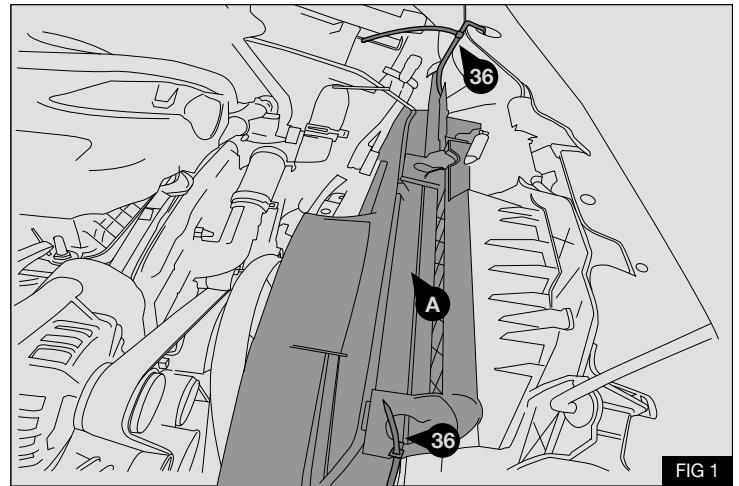

FIG 1
2. Using cable ties (36) secure the radiator (A) as shown. - Fig 1